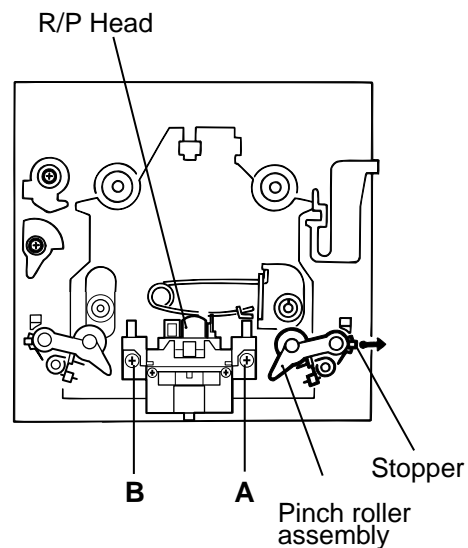

Fig.1
1. Remove the screw **A** on the right side of the R/P head.(Fig.1)
2. Remove the screw **B** on the left side of the R/P head.(Fig.1)